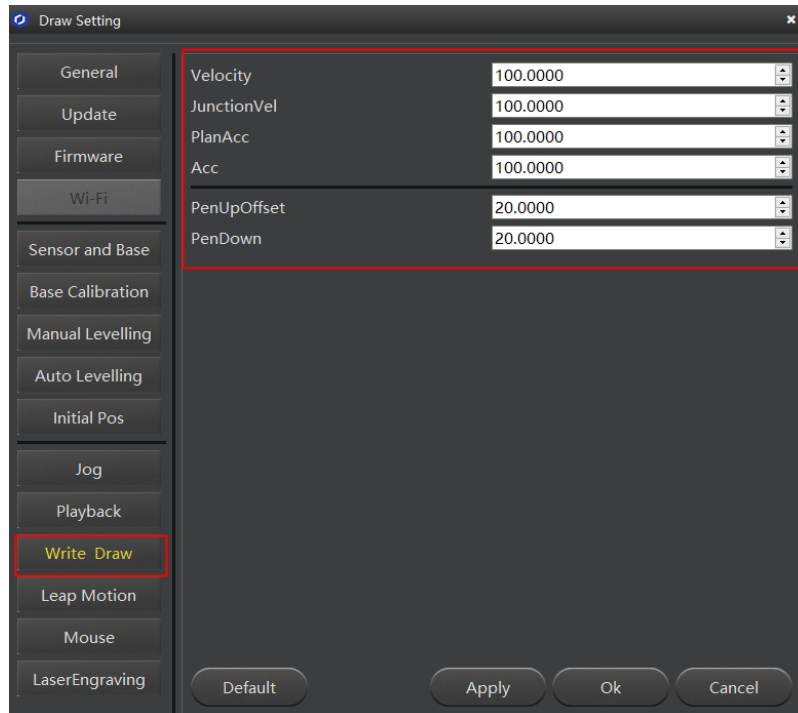

Figure 5.54 Setting the parameters of the Write & Draw function
2. Click **Write & Draw** to set the Dobot Magician's **Velocity** (mm/s), junction velocity (**JunctionVel**: mm/s), **PlanAcc** (mm/s²), acceleration (**Acc**: mm/s²), **PenUpOffset** (mm), **PenDown** (mm), as shown in Figure 5.54.